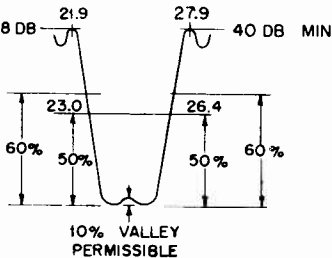

FIGURE 6.
12. Turn the primary and secondary of the mixer IF transformer, T-3 so that the bandpass appears as in Figure 6.
NOTE: It is important that the 21.9 mc and 27.9 carriers are attenuated as much as shown in Figure 6. To calculate, connect an AM generator to the mixer grid and a VTVM across the detector load resistor. Take voltage readings at 21.9 mc, 24.6 mc, and 27.9 mc and divide per following formula: With proper attenuation -